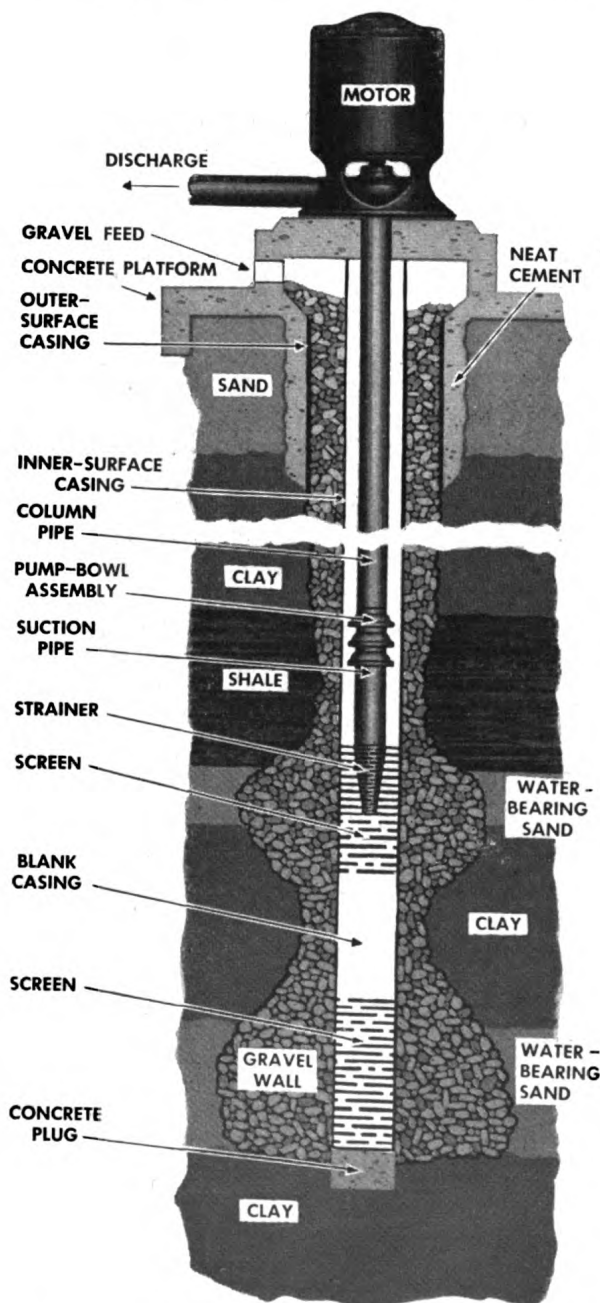

Figure 16 Gravel-wall well, with two sands developed.
(3) An increased draw-down when static level is unchanged is caused by increased resistance to water inflow and definitely indicates screen clogging, scaling, corroding, or sand and silt in gravel-packed area around screen or adjacent stratum.
e. Check for Safe Pumping Yield. From daily and weekly operating records, determine whether quantity of water pumped is exceeding safe yield of the well. To prolong the life of a well, especially a gravel-wall well (fig. 16), and greatly decrease maintenance at proper yield, set capacity at 50 percent of maximum draw-down.